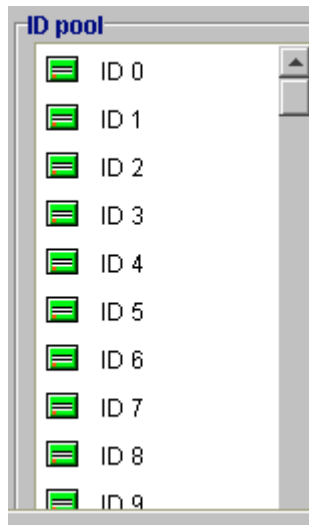

Figure 7-4: ID Pool Menu
- Step 5.** If you want to assign a different ID to the selected channel, choose the new ID from the **ID pool** scroll menu shown in *Figure 7-4*.